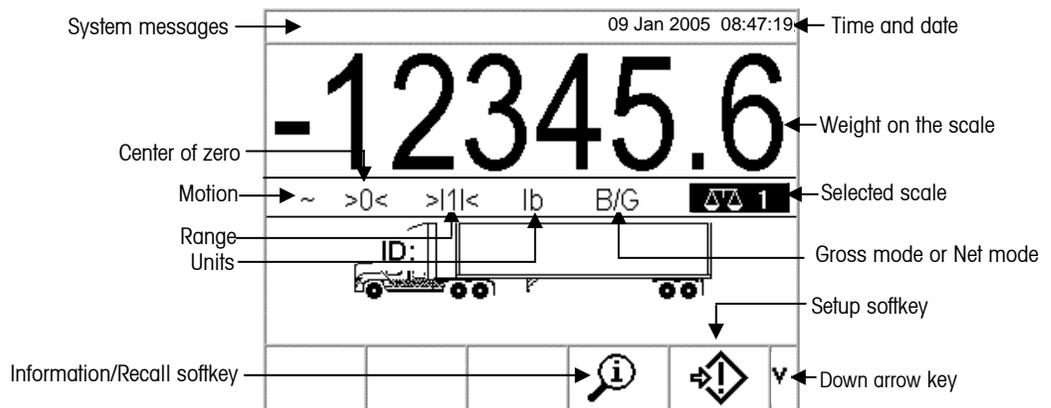
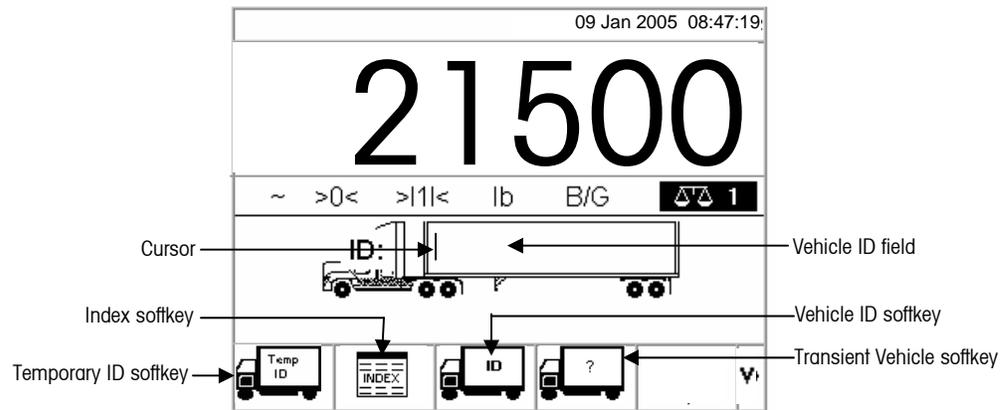

Figure 2-6: Default Vehicle ID Weighing Operation Screen
Figure 2-7: Default Weight Screen
The default screen can be configured to display No Vehicle Application, Vehicle ID, or Temporary ID as the default weighing mode. At power up, when exiting setup, or upon completion of a transaction the IND310drive will automatically display the input screen associated with the selected default auto start mode. (See Chapter 3.0, Configuration, Application, Vehicle Weighing for information about how to configure the default auto start mode.) Figure 2-6 shows an example of a Vehicle ID Weighing default screen.
1. From the default weight screen (Figure 2-6), press the DOWN arrow key to display all available softkeys (see Figure 2-7).
1. Once the vehicle is on the scale, press the TEMPORARY ID softkey (see Figure 2-7). An automatic ID number between 001 and 999 displays, which can be used as the temporary ID. To use the automatic number as the ID, press ENTER. To enter more detailed information: